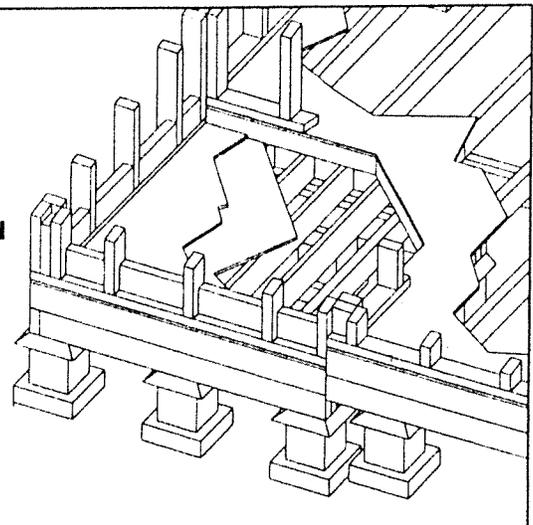

FIGURE 17.1
For a reconstructed home or rehab units with wood floor frames the contractor must build or replace the floor area for handicap showers with a similar let-in area. Then the area must be reinforced by the contractor to compensate for tile shower weight, and prevent settlement cracks. This will **ensure** that the floor frame is adequately reinforced to receive such weight by following the floor framing specifications closely. (See figure 17.1)
A. To reinforce wood frame home floors: See Figure 17.1
2. Build the let-in space as per figure 17.1.
3. Install (3)-2" x 6" treated beams to each long sides of the shower perimeter.
4. Support each beam with (3) pads, piers, and termite shields each.
- A. **All handicap showers on wood floor frames shall be reinforced as per Figure 17.1 specification.**